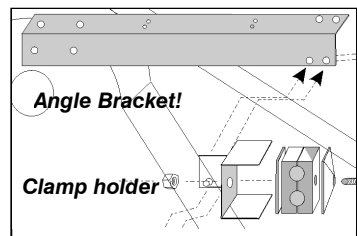

Figure 13
6. Assemble the reference and direction clamp assembly as shown in figure 13. The bracketing is designed so that the assembly may be installed to either side of the machine, by rotating the angle bracket 90 degrees.